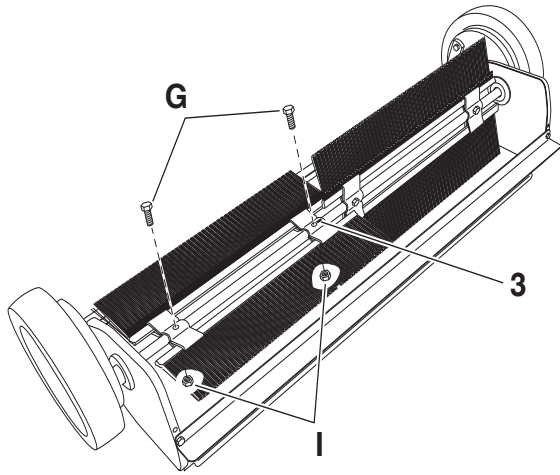

Figure 4
STEP 4: (SEE FIGURE 4)
- Install the brush with retainer marked black (3) onto the brush shaft and secure in place with 1/4-20 x 1" hex bolts (G) and 1/4-20 nylock nuts (I).